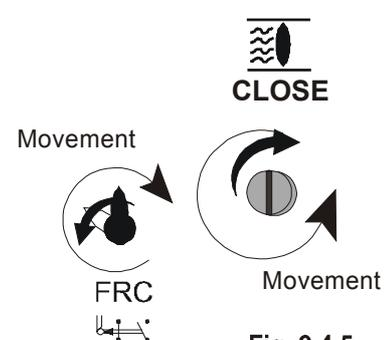

Fig. 9.4.5
- If, by accident, it has been carried on turning past the tripping of the FRC microswitch, turn spindle U in the opposite direction (counter-clockwise) until the Z spindle returns vertical (Figure 9.4.5)